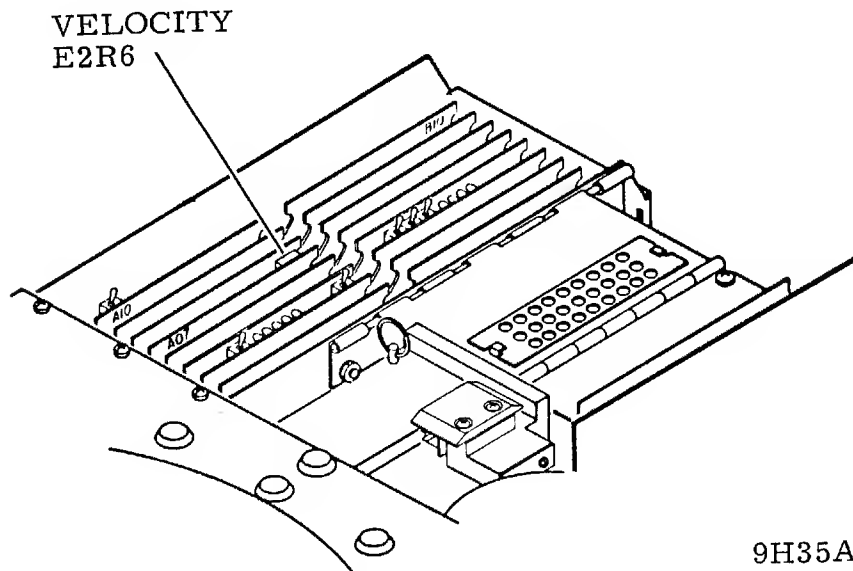

Figure 2-21. 80 MB Velocity Gain Adjustment Location
5. If full length seek time is not as specified, perform velocity gain adjustment. On card A2A07, adjust velocity gain potentiometer E2R6 (see figure 2-21) until time between leading edges of On Cylinder pulses is 52 ± 2 milliseconds.
5. If full length seek time is not as specified, perform velocity gain adjustment. On card A2A07, adjust velocity gain potentiometer E2R6 (see figure 2-21) until time between leading edges of On Cylinder pulses is 52 to 54 milliseconds.